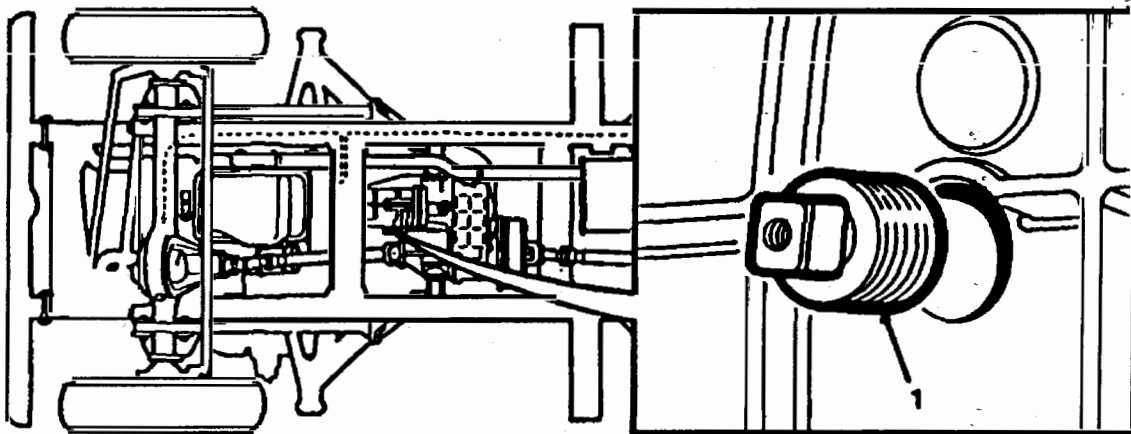

Fig 113 Gearbox filler plug
12.8 Fill the gearbox with the specified oil (Cat 601 Table 2) until the oil begins to run out of the filler/level hole Fig 113 (1).